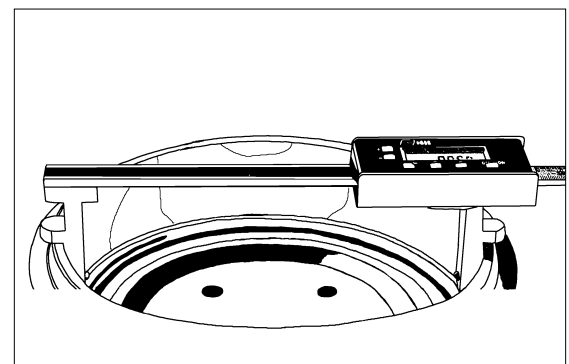

Figure 8 - Measure drum diameter
1. Measure the diameter of the brake drum with a brake drum micrometer (figure 8).